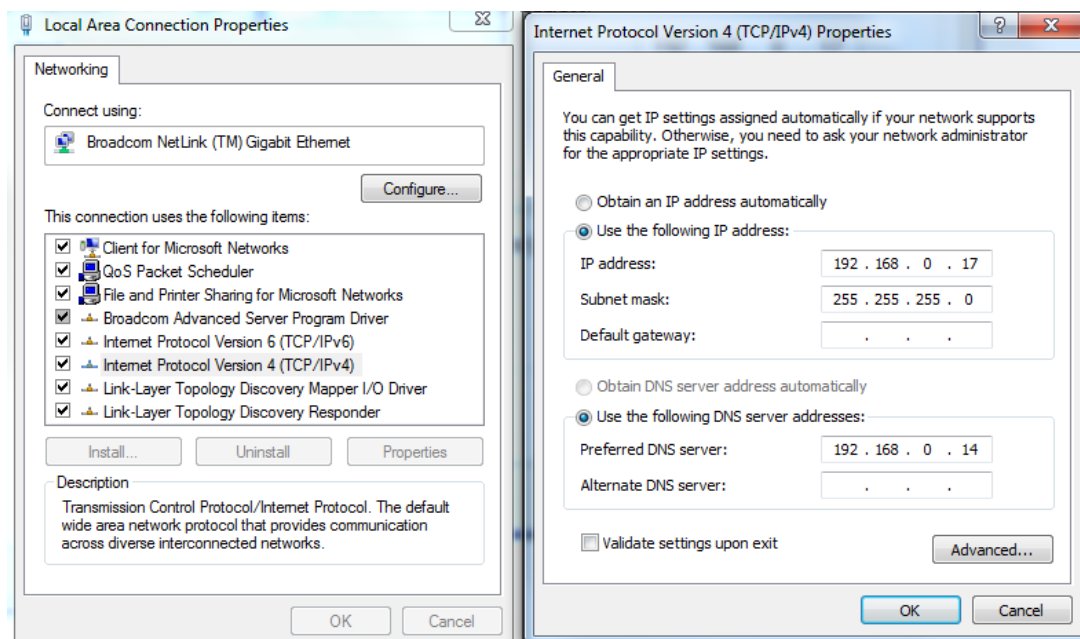

Figure 18 • Static IP Settings on Host PC
2. Plug in the UART cable between the host PC and board. Figure 18 gives an example of assigning a Static IP address on the Host PC: